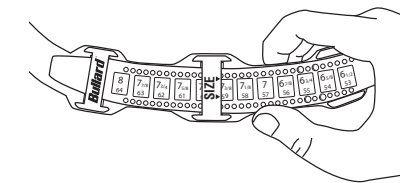

Figure 6
4. To change the headband size, unlock the four pins from the sizing holes. Place the headband on your head. Pull down, allowing headband to expand until it feels comfortable. The headband will automatically adjust to your size. Lock into place by pushing the four pins into the sizing holes (Figure 6).